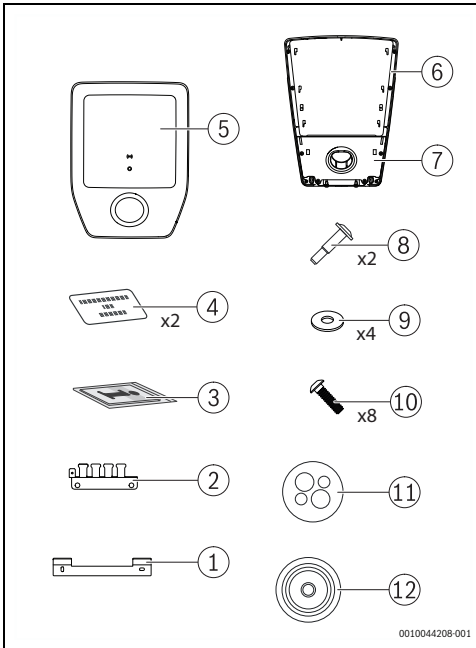

Fig. 25 Scope of delivery
- ▶ Carefully remove the cover [5] and the cap with the parking holder [7] from the Power Charge 7000i (→ Fig. 25, page 29).